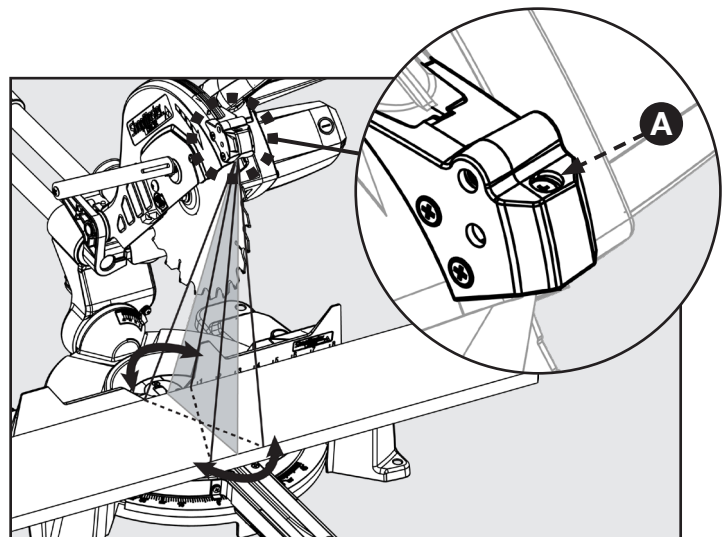

FIGURE 25
If you notice the laser line is not perfectly parallel with the saw blade refer to Figure 25 and follow these instructions: using a Phillips head screwdriver turn screw (A) until the laser line is parallel with the saw blade.